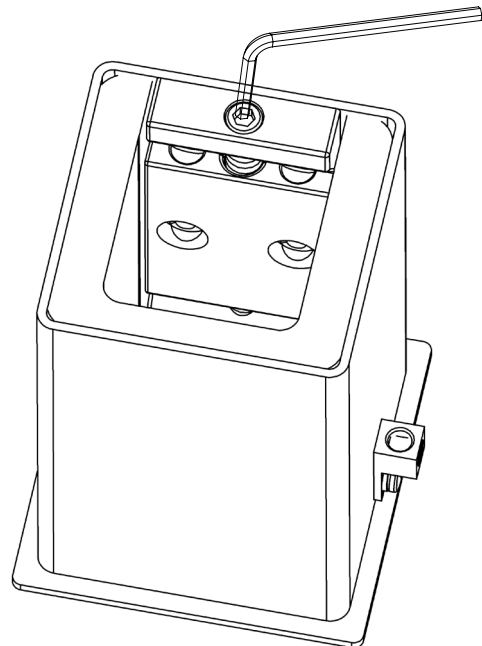

FIGURE 5
5. If the product is not being reinserted into the anchor, once the wedge is in place tighten it using the Allen wrench. Insert the wrench into the anchor bolt and turn clockwise one turn to gently tighten the wedge into place. FIGURE 5. NOTE: Do not over-tighten.